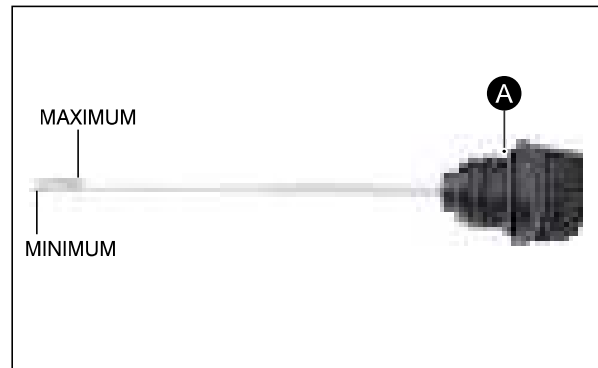

Fig. 2.34
- Check the oil level. The oil level should be between minimum and maximum levels. (Fig. 2.34)